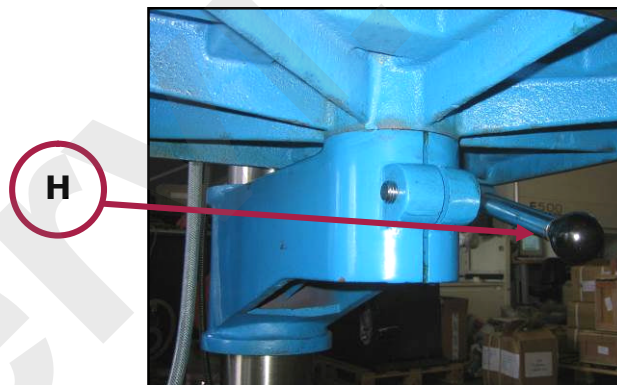

Figure 21 - Rotating the table.
1. Unlock the locking handle (H) located under the table (figure 21).
3. Tighten the locking handle (H).